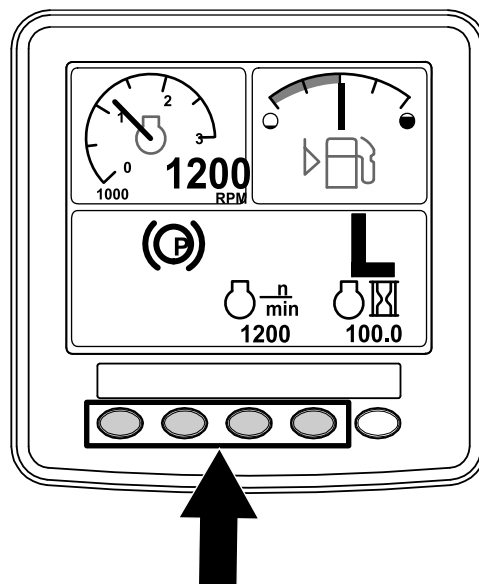

Figure 7
1. From the HOME SCREEN, press buttons either 1, 2, 3, or 4 to access the pop-up menu bar at the bottom of the screen (Figure 7).